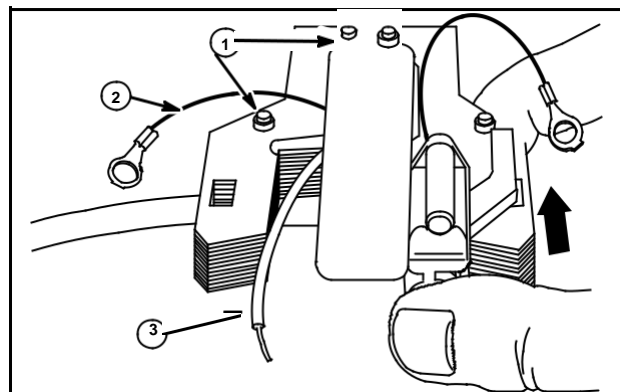

Fig. 14
Install the module with the retainer on the side of the armature with small rivet ends (1), Fig. 14.
Ignition armature ground wire (2), Fig. 14.
Ignition armature primary wire (3), Fig. 14.